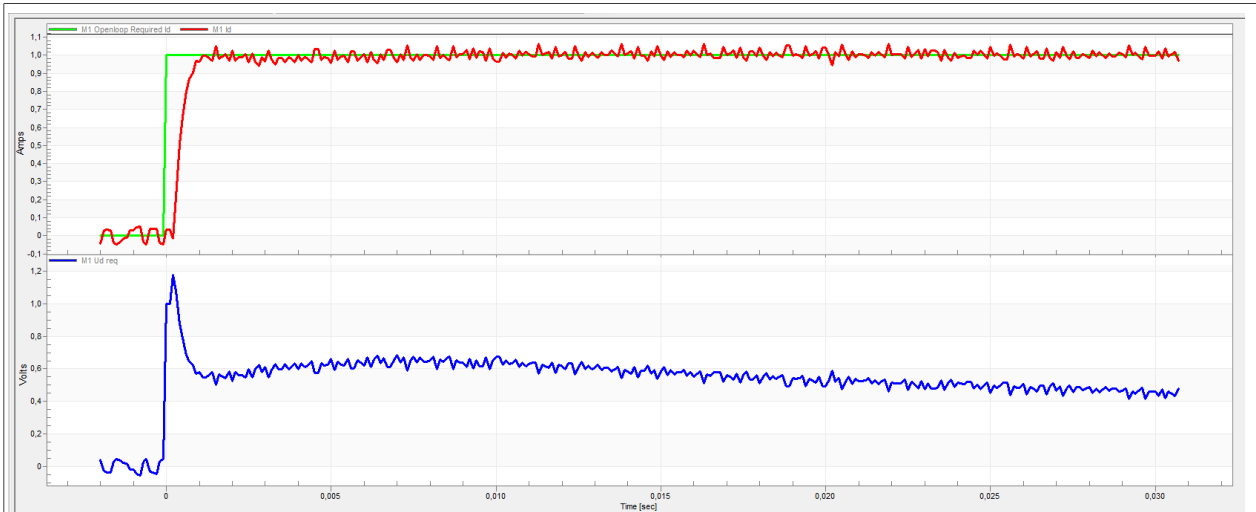

Figure 34. Optimal step response of the Id current controller
- The loop bandwidth (300 Hz) is optimal and the response time of the Id current is sufficient (Figure 34).